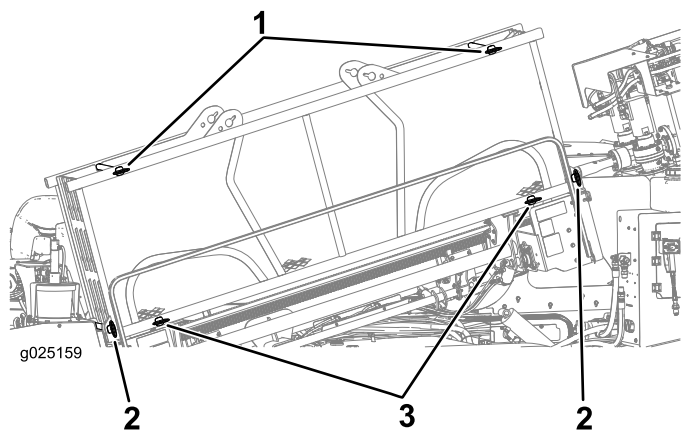

Figure 67
2. Ensure that the upper front and rear pipe-holder pins and the lower front and rear pipe-holder pins are installed (Figure 67).